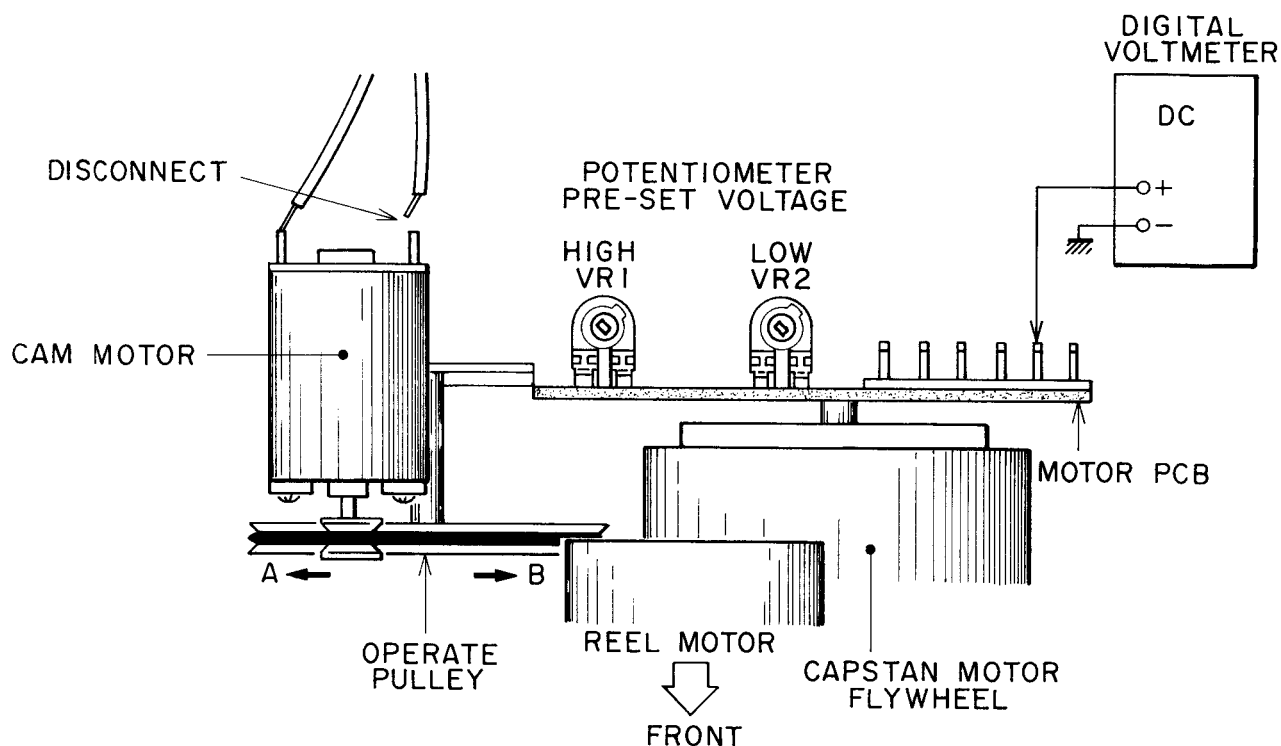

Fig. 8-1
- Connect the digital voltmeter as shown in Fig. 8-1.
- With power ON, adjust VR2 so that the voltage reading will be 0.78V (DC).
- With power ON, adjust VR1 so that the voltage reading will be 6.73V (DC).